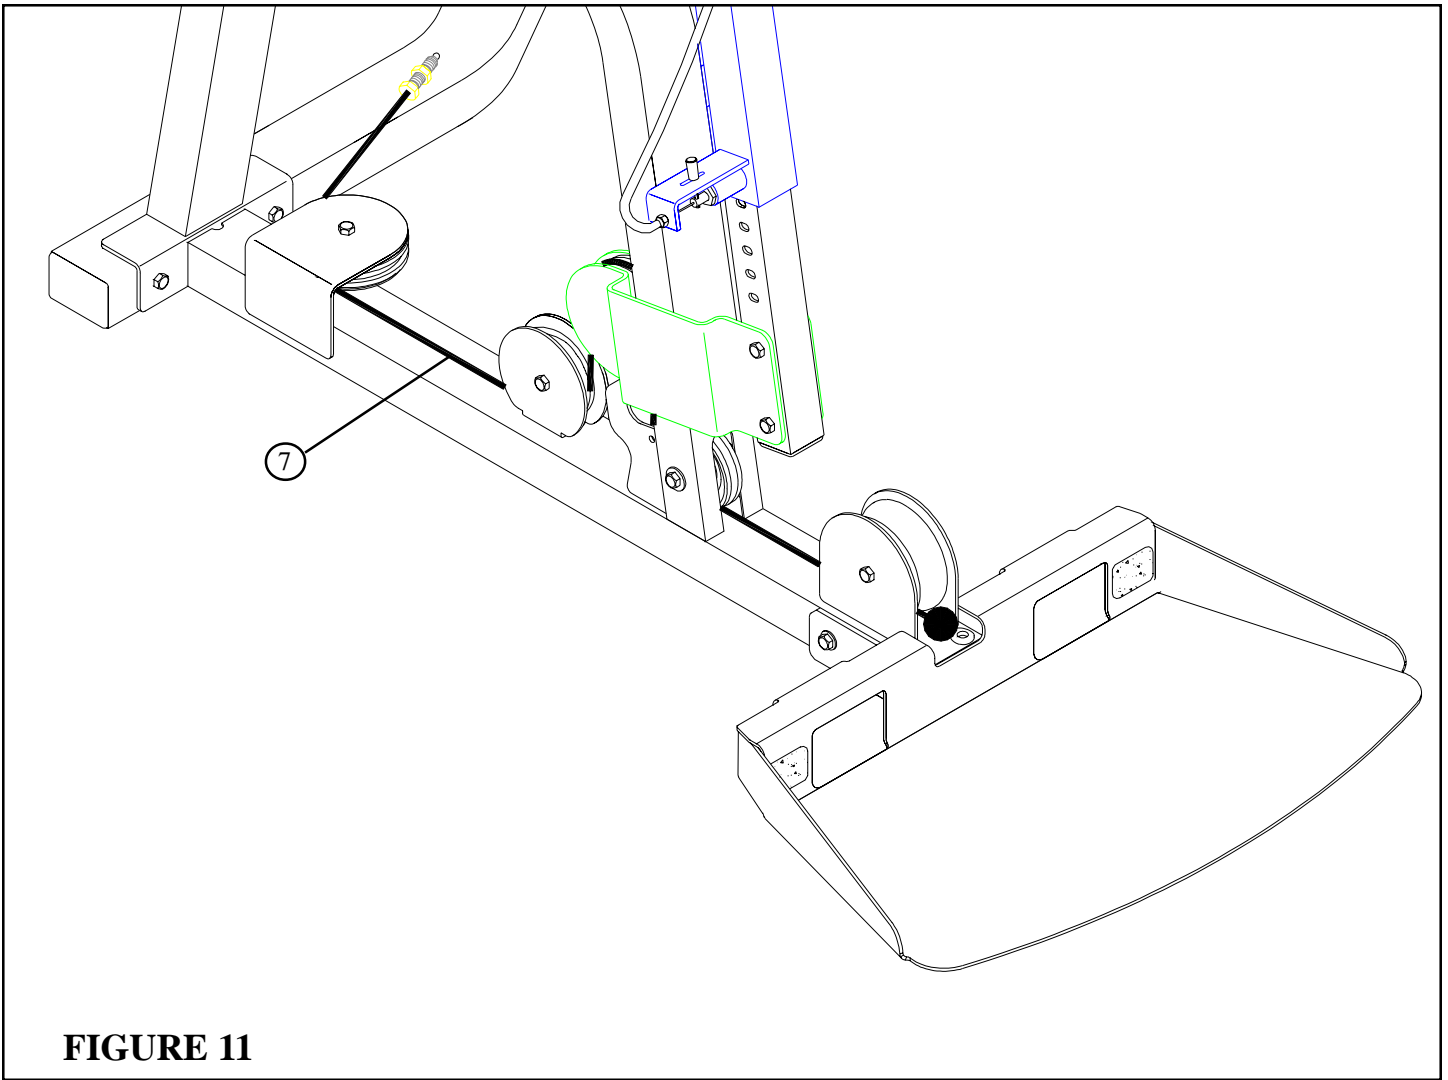

**FIGURE 10**
- Assemble two 3-1/2" PULLEYS (9) to the LEFT BOOM BRACKET (2) using two 3/8 X 1-3/4" BOLTS (13) and two 3/8" LOW HEIGHT LOCK NUTS (14) as shown in FIGURE 10.
- Route the WEIGHT STACK CABLE around the pulleys in the LEFT BOOM BRACKET (2) as shown in FIGURE 10. **(NOTE: Make sure the cable runs in the grooves of the pulleys.)**
- Assemble the WEIGHT STACK PIN (10) to the HEAD PLATE (6) as shown in FIGURE 10.
- Screw the long threaded end of the WEIGHT STACK CABLE into the end of the HEAD PLATE (6) .See FIGURE 10.